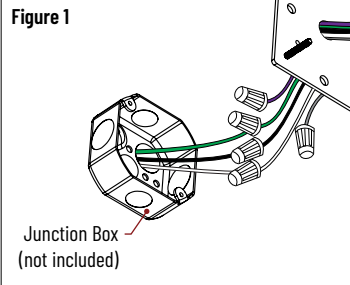

Figure 2
3. Attach wall mount bracket to junction box with screws (not included). (Figure 2)